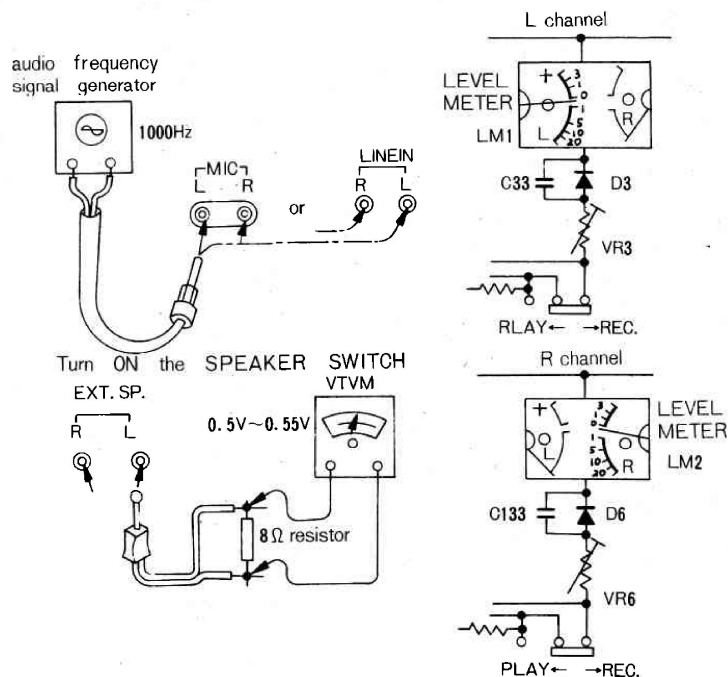

Fig. 38
- a-3. Turn on the speaker switch (SP SWITCH), insert a 8 ohm resistor to the external speaker jack (EXT. SP) and connect the VTVM (vacuum tube voltmeter) to both sides of the resistor as shown in Fig. 38.